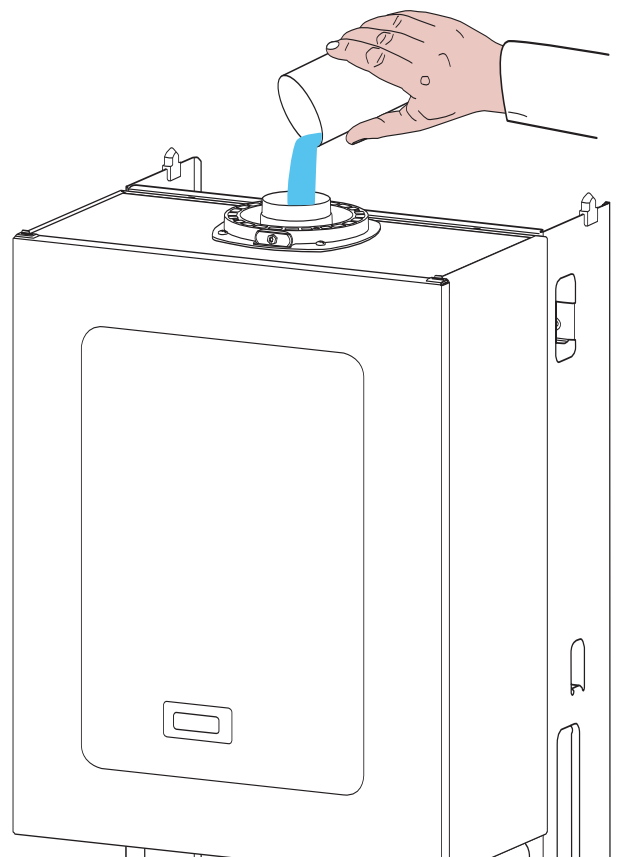

Fig.12
**Attention ! Before starting the boiler, the siphon 12 fig. 1 must be filled with water. Before fitting the flue terminal onto the boiler, please pour 1/4 litre of water in the exhaust pipe as shown in fig. 12.**